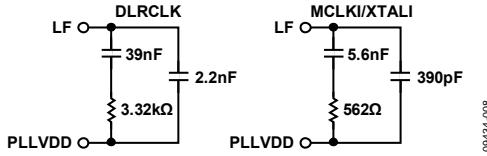
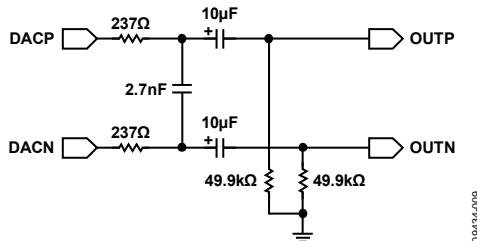
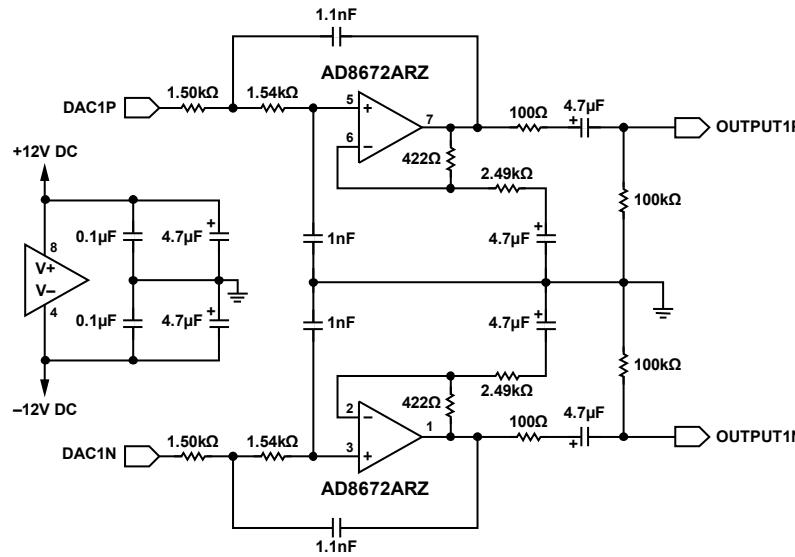
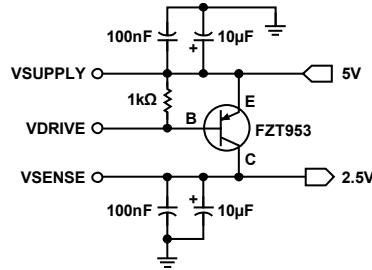

Figure 8. Recommended Loop Filters for DLRCLK or MCLKI/XTALI PLL Reference Modes
Figure 9. Typical DAC Output Passive Filter Circuit (Differential)
Figure 10. Typical DAC Output Active Filter Circuit (Differential)
Figure 11. Recommended 2.5 V Regulator Circuit
Typical application circuits are shown in Figure 8 to Figure 11. Recommended loop filters for DLRCLK and MCLKI/XTALI modes of the PLL reference are shown in Figure 8. Output filters for the DAC outputs are shown in Figure 9 and Figure 10, and an external regulator circuit is shown in Figure 11.
When AVDD is supplied with 5 V, each analog output pin has a nominal common-mode (CM) dc level of 2.25 V and swings  $\pm 8.49$  V p-p (3 V rms differential) from a 0 dBFS digital input signal. An AVDD of 3.3 V generates a CM dc voltage of 1.5 V and allows differential audio swings of  $\pm 5.66$  V p-p (2 V rms) from a 0 dBFS digital input signal. The differential analog outputs require only a single-order passive differential RC filter to provide the specified DNR performance; see Figure 9 for an example filter. The outputs can easily drive differential inputs on a separate PCB through cabling as well as differential inputs on the same PCB.
If more signal level is required or if a more robust filter is needed, a single op amp gain stage designed as a second-order, low-pass Bessel filter can be used to remove the high frequency out-of-band noise present on each pin of the differential outputs. The choice of components and design of this circuit is critical to yield the full DNR of the DACs (see the recommended passive and active circuits in Figure 9 and Figure 10). This filter can be built into an active difference amplifier to provide a single-ended output with gain, if necessary. Note that the use of op amps with low slew rate or low bandwidth can cause high frequency noise and tones to fold down into the audio band; exercise care when selecting these components.
The ADAU1966 PLL can also be programmed to run from an external LRCLK. When the PLLIN bits in the PLL\_CLK\_CTRL0 register are set to 01 and the appropriate loop filter is connected to the LF pin (see Figure 8), the ADAU1966 PLL generates all of the necessary internal clocks for operation with no external MCLK. This mode reduces the number of high frequency signals in the design, reducing EMI emissions.